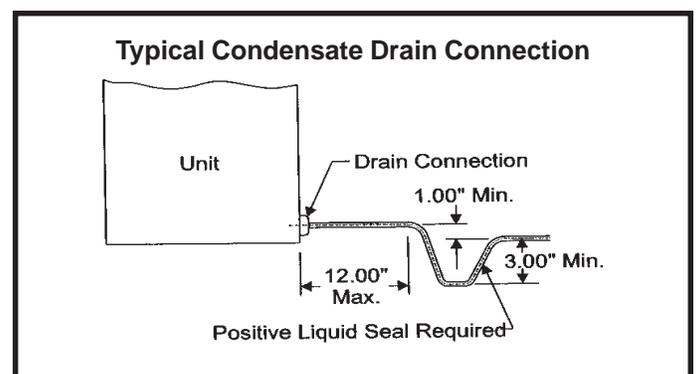

Figure 3
4. Remove the 4 screws that will be used to attach the vent cover (see Fig. 3). Install the vent cover using these screws. A properly installed vent cover will not extend above the top of the unit.
**The condensate drain line must be properly trapped and routed to a suitable drain.** See Figure 3 for proper drain arrangement. The drain line must pitch to an open drain or pump to prevent clogging of the line. Seal around the drain connection with suitable material to prevent air leakage into the return air system.